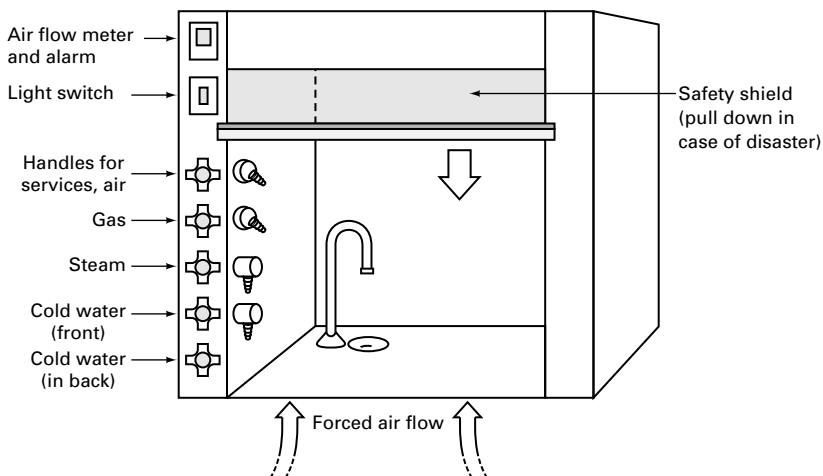

FIGURE 1.1 A typical hood.
Try a hot plate, try a heating mantle (see Chapter 17, “Sources of Heat”), but try to stay away from flames. Most of the fires I’ve had to put out started when some bozo decided to heat some flammable solvent in an open beaker. Sure, there are times when you’ll *have* to use a flame, but use it away from all flammables and in a hood (Fig. 1.1), and only with the permission of your instructor.
13. ***Work in the hood.*** A hood is a specially constructed workplace that has, at the least, a powered vent to suck noxious fumes outside. There’s also a safety glass or plastic panel you can pull down as protection from exploding apparatus (Fig. 1.1). If it is at all possible, treat every chemical (even solids) as if toxic or bad-smelling fumes can come from it, and carry out as many of the operations in the organic lab as you can *inside a hood*, unless told otherwise.